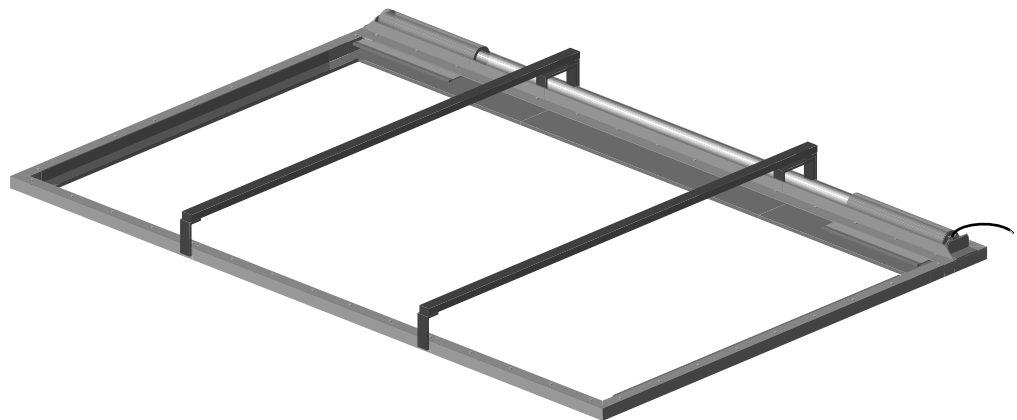

Figure 3: Attaching the wall brackets
3. Bolt wall brackets to the frame using the supplied 5/8" (1.6 cm) hex head bolts. See Figure 3. Depending on the size of the screen, the number of wall brackets may vary.